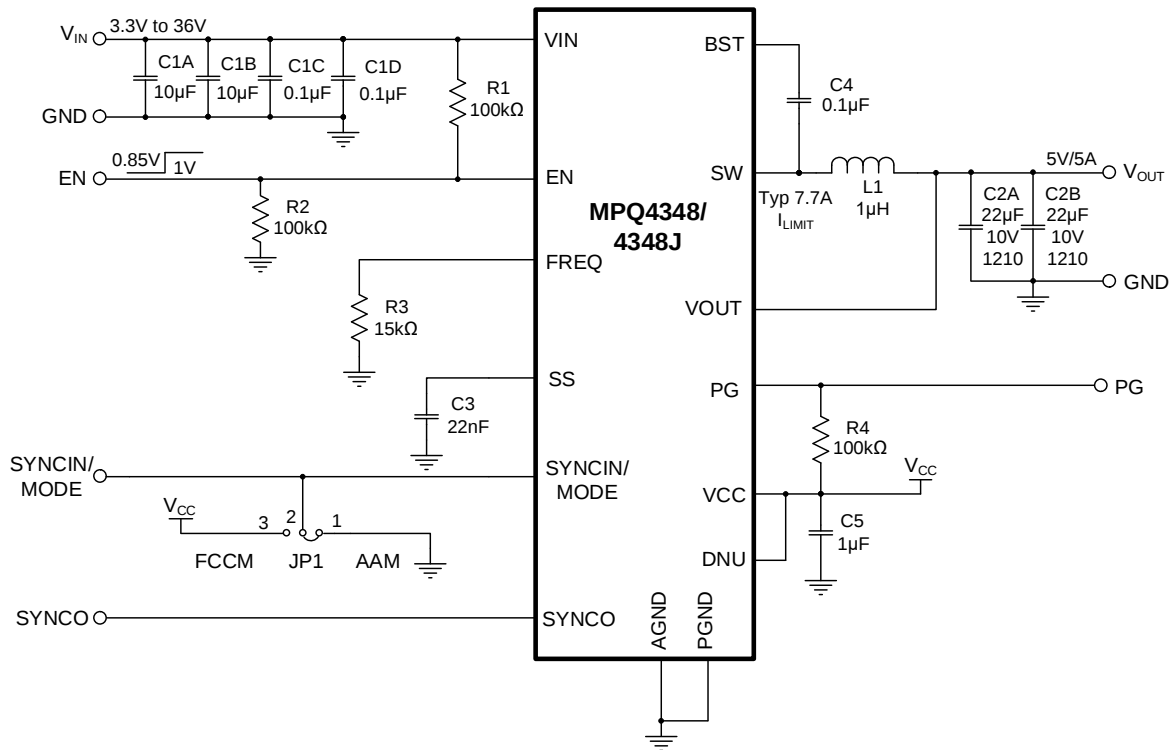

Figure 9: Typical Application Circuit ($V_{OUT} = 5V$, $f_{sw} = 2.2MHz$)
12) The recommended PCB layout is based on Figure 9 on page 41.